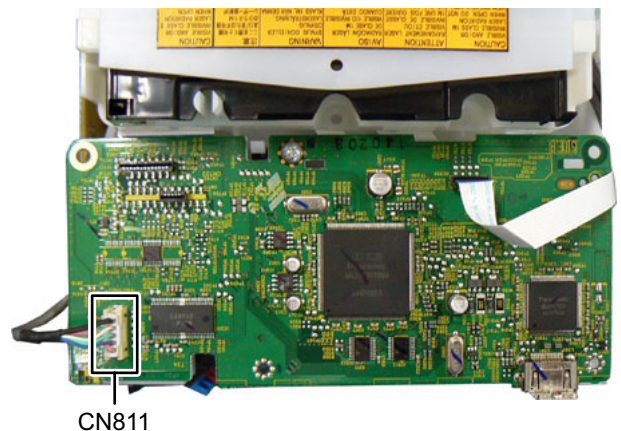

Fig.7
3.1.4 Removing the DVD mechanism (See Fig.7, 8)
- (1) Disconnect the connector wire from USB board connected to connector **CN811** of the DVD board. (See Fig.7)
- (3) Remove the read screw from traverse mechanism assembly. (See Fig.7)